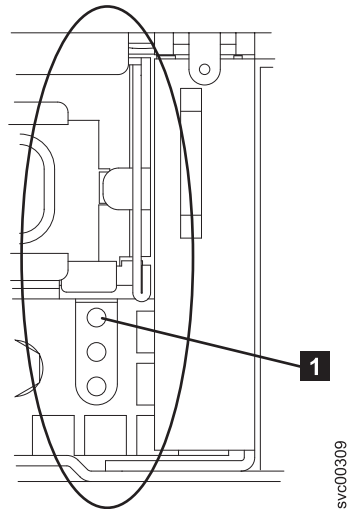
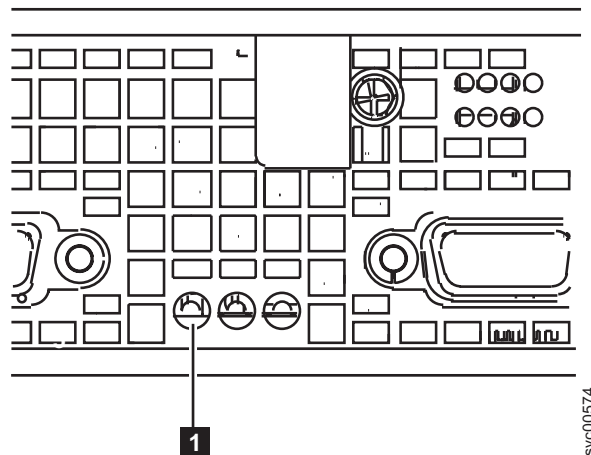

Figure 78. Power LED on the SAN Volume Controller models 2145-8G4, 2145-8F4, and 2145-8F2 rear panel
Figure 79. Power LED indicator on the rear panel of the SAN Volume Controller 2145-CG8 or 2145-CF8
**Is the rear panel power LED on or flashing?** Figure 78 on page 241 shows the location of the power LED **1** on the rear panel of the 2145-8G4, 2145-8F4, or 2145-8F2 nodes. Figure 79 on page 241 shows the location of the power LED **1** on the 2145-CF8 or the 2145-CG8.
**Is the power supply error LED on the rear of the SAN Volume Controller 2145-CG8 or SAN Volume Controller 2145-CF8 power supply assemblies illuminated?** Figure 79 on page 241 shows the location of the power LED **1** on the 2145-CF8 or the 2145-CG8.